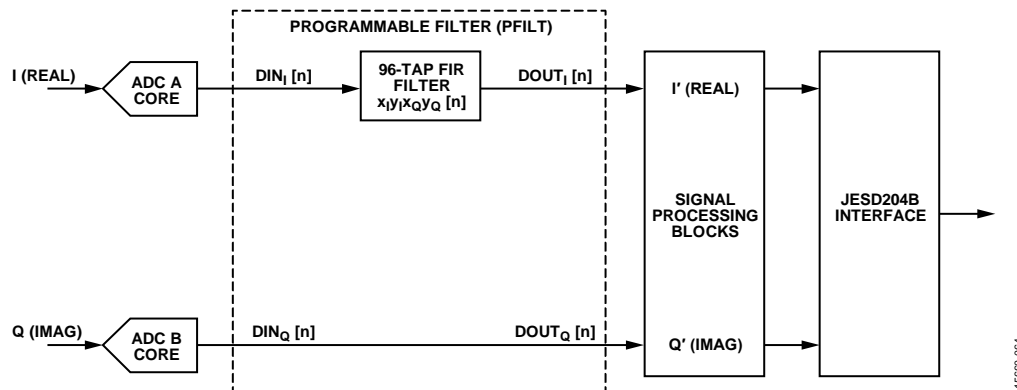

Figure 93. Real 96-Tap Filter Configuration
- Real 96-tap filter for on either I or Q channel (see Figure 93)